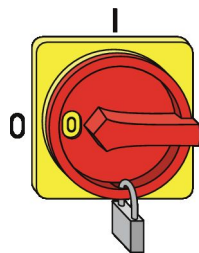

Fig. 8: Securing the mains isolator
3. ▶ Secure the mains isolator with a padlock (Fig. 8).